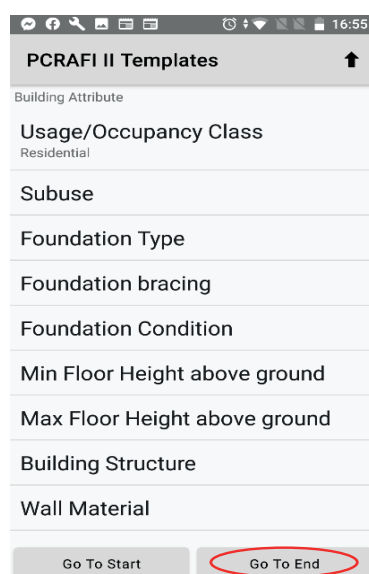

Figure 68: KoBoCollect - Completing the Form
- Once data collection is completed; in order to complete the form, the user can save the form and exit. This can be done by clicking on the "Go To End" tab, or by manually swiping through all the templates. (Figure 68)